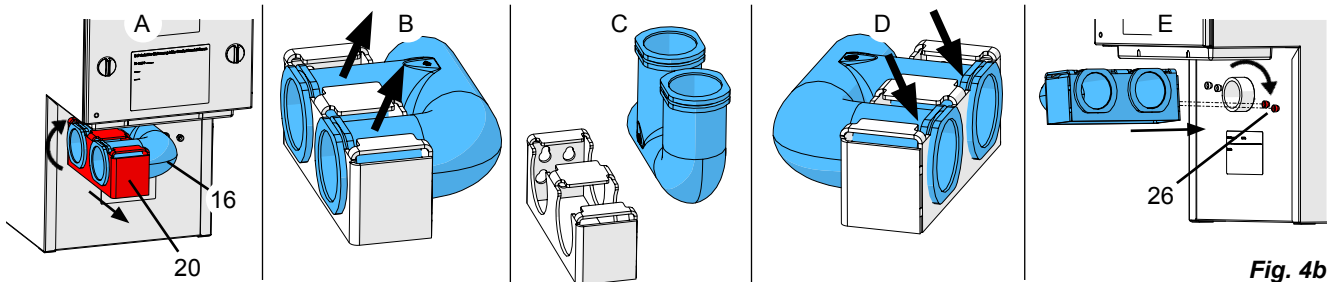

Fig. 4b
- ⇒ Push the suction pipe (16) onto the suction support on the extractor and hang the holder (20) onto the holder screws (26, Fig. 4b).